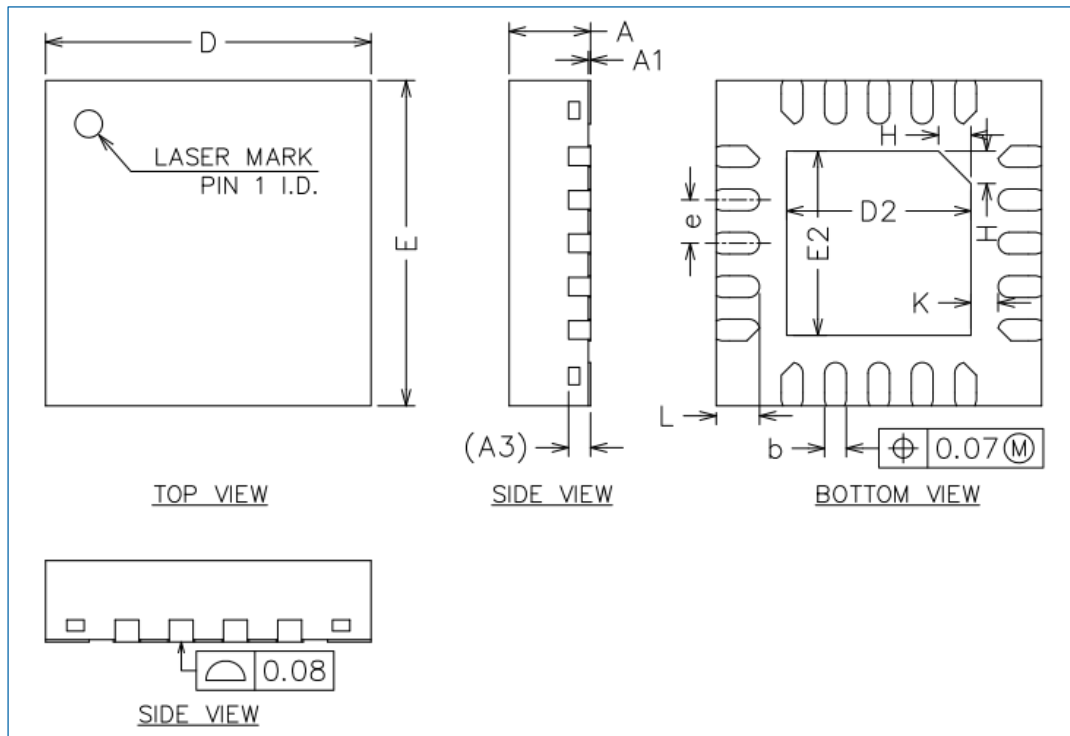

Figure 7-1 QFN20 package 1 outline
- 3 mm × 3 mm, 0.4 mm pitch (0.75 mm thick) package (as shown in Figure 7-1): HK32F030MF4N6